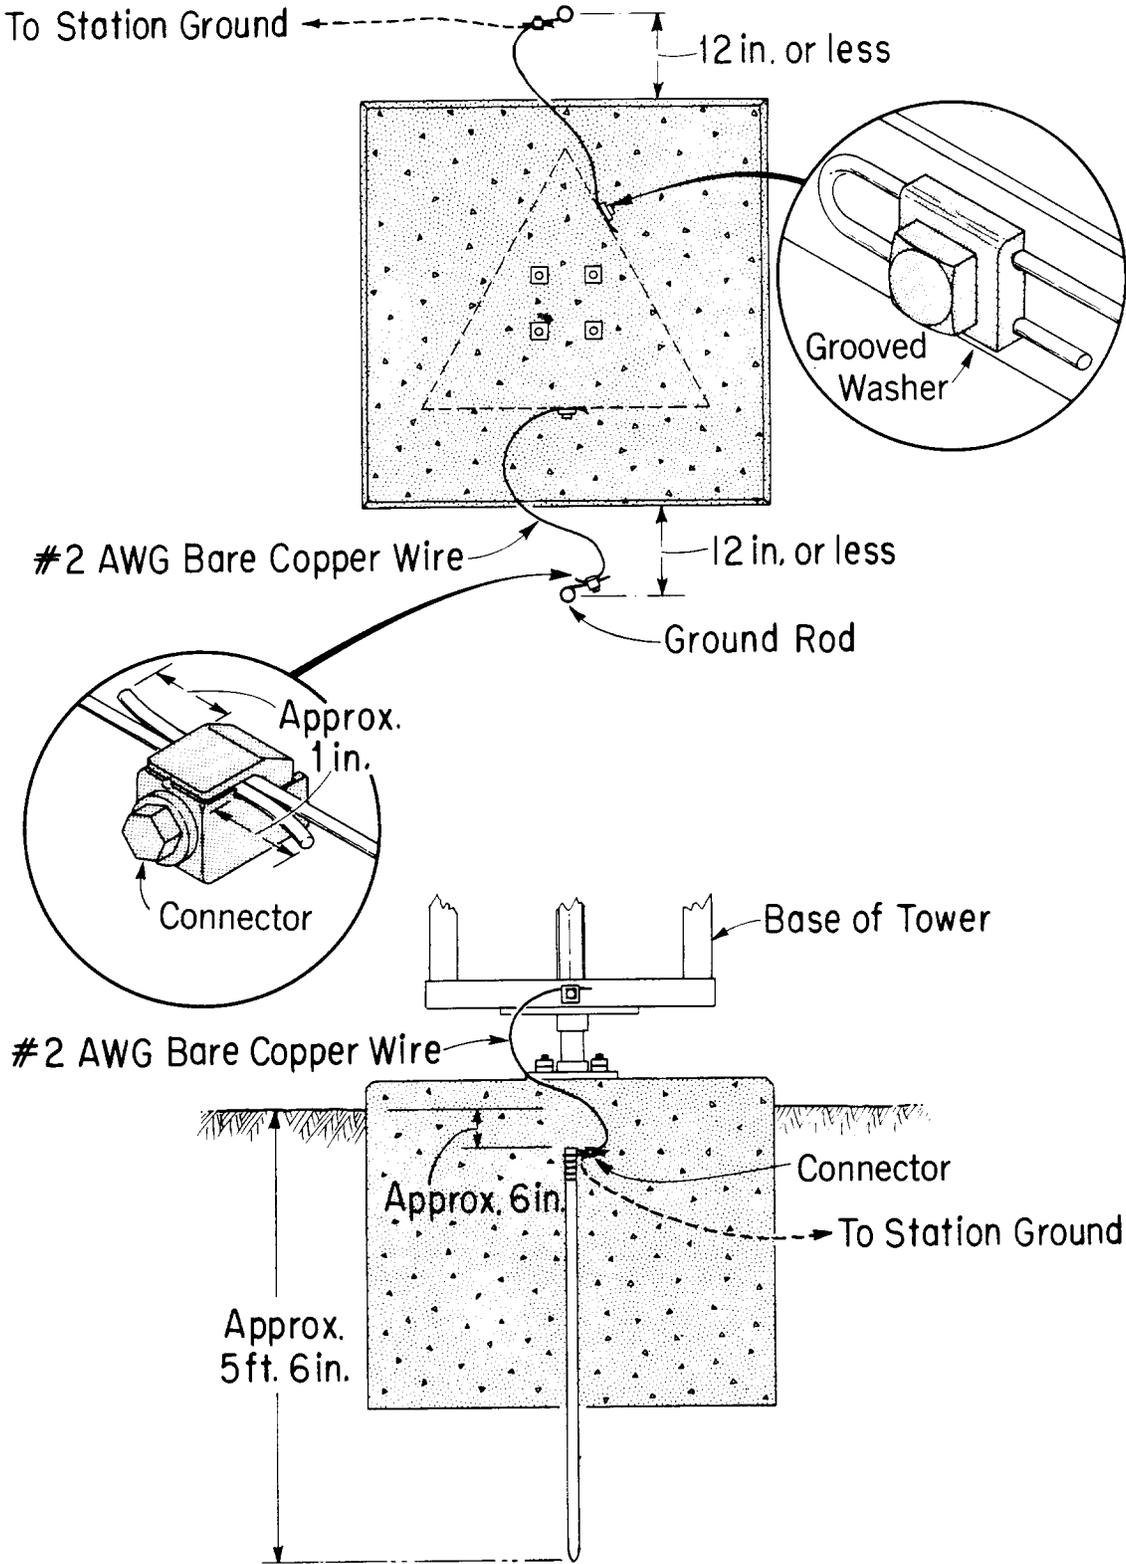

Fig. 10 – Grounding at Foundation
4.03 The general principle of protecting a buried concrete structure against lightning which may enter through steel extending above ground, is to equalize the potential inside and outside the concrete mass, in order to prevent arcing. In the specific case of anchors and foundations for the B Guyed Tower, (as shown in Fig. 10 and 11) grounding is accomplished by placing two ground rods alongside each mass of concrete, and connecting them to the anchor rods and tower base, respectively. To obtain maximum protection, the two ground rods are placed on opposite sides of the concrete block.
4.04 In protecting the foundation, as shown in Fig. 10, the ground rods are placed within 12 inches or less of the midpoint of opposite sides and driven to a depth of about 5½ feet. Connectors are used to join the tail of each ground rod to a length of No. 2 AWG bare copper wire. About 7 feet of wire should be left above ground to make the connection to the tower. Each copper wire is secured to the tower under a grooved washer which is held by a ½-inch machine bolt supplied as part of the grounding kit. Two 9/16-inch diameter holes are provided for this purpose in each channel at the base of the tower. About an inch of wire should extend beyond the edge of the washer. The connection should be painted over with black pitch, or a similar waterproofing after the connection has been tightened to avoid loss of galvanizing which would otherwise take place.